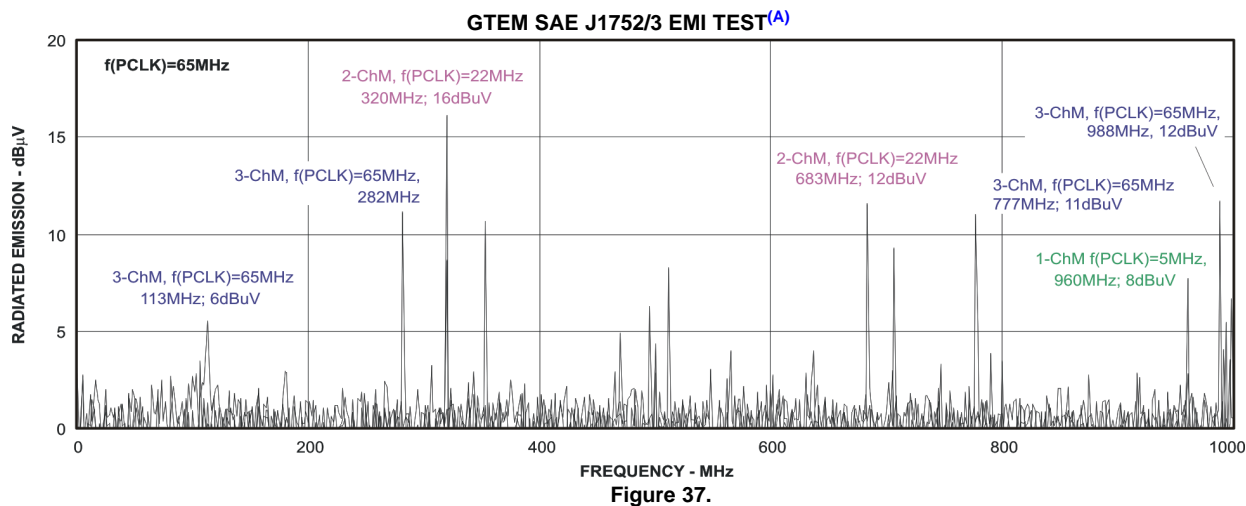

Figure 37.
- A. Figure 37 shows a superimposed image of three EMI measurements with the device operating at  $f(\text{PCLK}) = 5$  MHz,  $f(\text{PCLK}) = 22$  MHz, and  $f(\text{PCLK}) = 65$  MHz. This excellent EMI performance meets the system requirements of dense, mobile designs with a noise floor of  $\sim 2$  dB $\mu$ V ( $\sim 105$  dBm) and all spurs being smaller than 16 dB $\mu$ V ( $\sim 101$  dBm). The test was performed in compliance with the SAE J1752/3 EMI test guidelines.